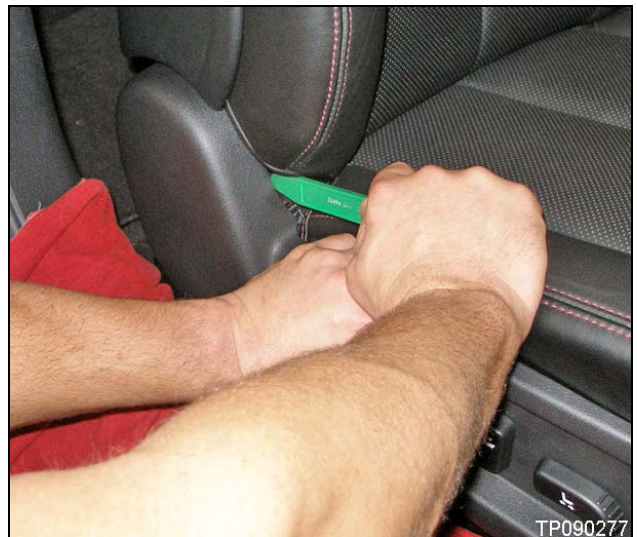

Figure 1
- a. While carefully pulling out on the center of the finisher, insert a suitable tool in the gap, and then carefully pry between it and the inside finisher (see Figure 1).